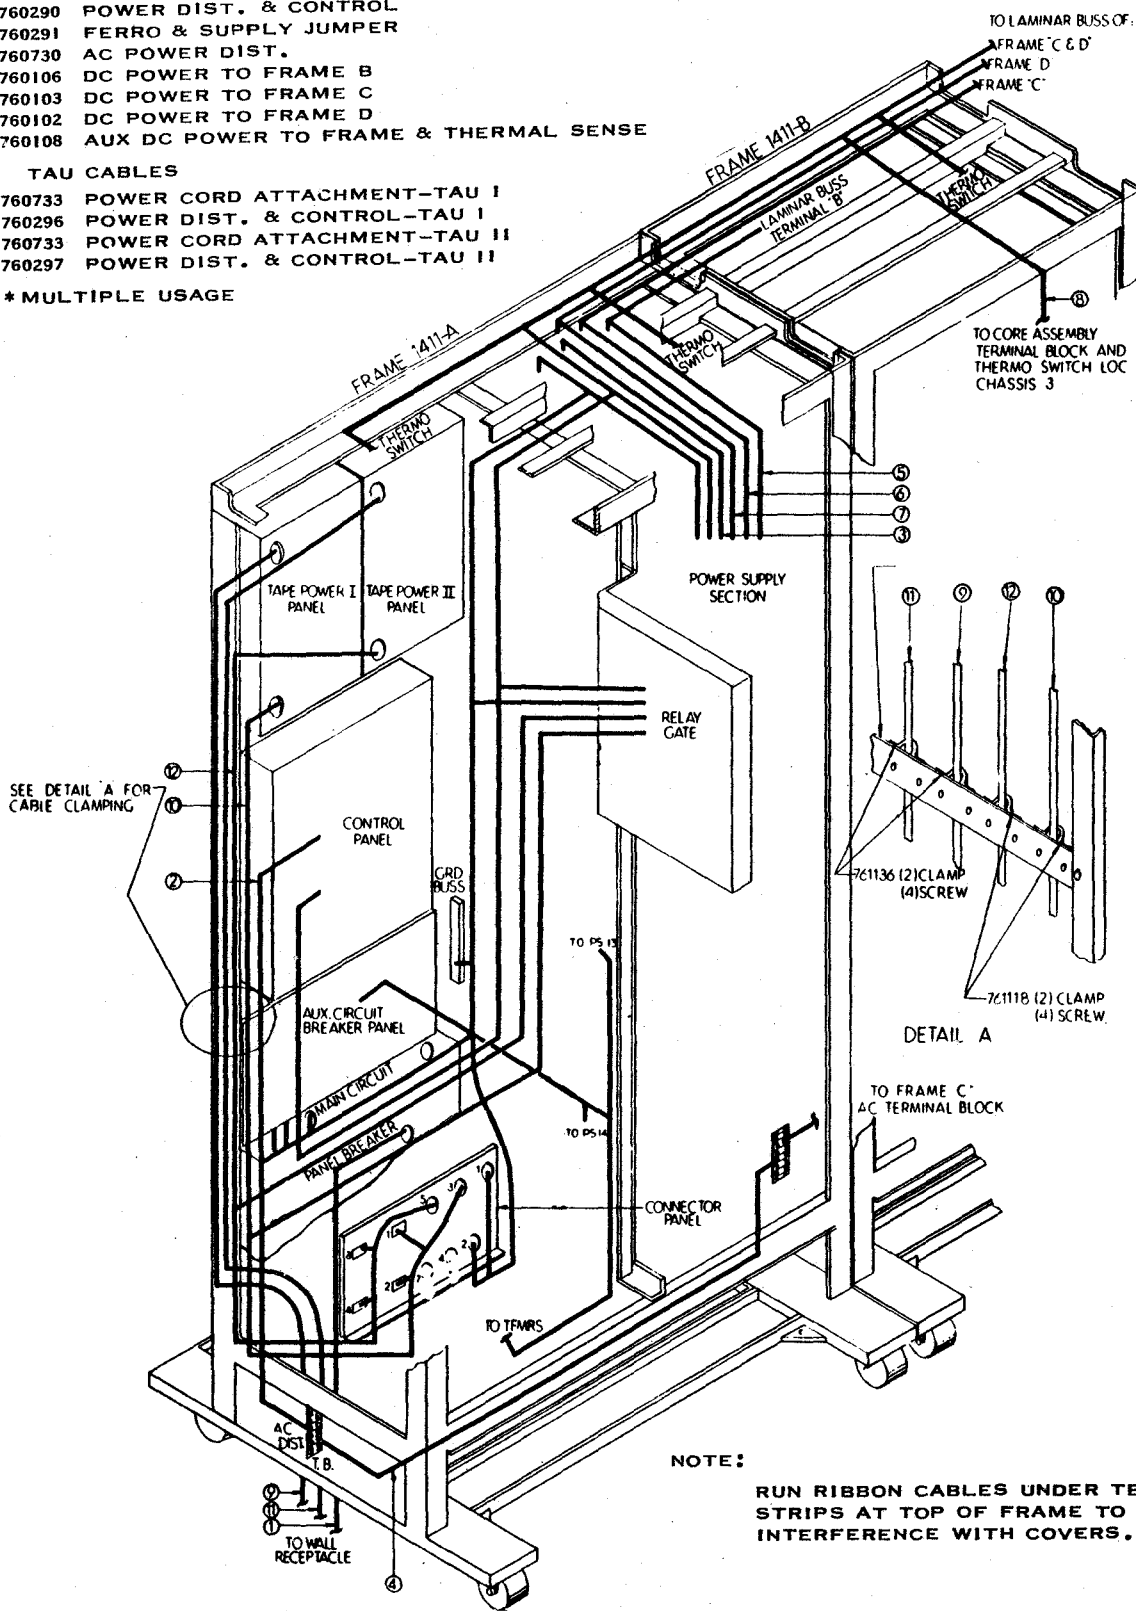

FIGURE 3-2 INTERNAL POWER AND CONTROL CABLE ROUTING
- D. The thermal sense cable, Part No. 760108 extends across all frames. (Cable identification is shown in Figure 3-2). The first tie-off in the thermal sense cable goes to the 2-position terminal block located on the resistor chassis above core storage in frame 11B. From the card side of the machine, the wire goes to the terminal on the left. The second tie-off from the thermal sense cable is a smaller cable that is attached to TB 11 located at the bottom rear of the core array. The first two wires in the tie-off go to terminal 1; the next four wires go to terminals 2, 3, 4, and 5. The next two wires go to terminal 7; the remaining three wires go to terminals 8, 9, and 10. Connect the thermal sense connectors to the thermal switch leads for chassis 11B3. The next tie-off in the thermal sense cable contains three wires. The short red wire goes to the frame 1411 laminar bar, terminal 5. The black wire goes to terminal 6, and the longer red wire goes to terminal 7.
In frames 1411C and 1411D, connect the red wires to laminar bar terminal 5, and connect the black wire to laminar bar terminal 6. Also, connect the wires to the thermal sense cables in each frame (detail A of Figure 3-1). Thermal switch cable, Key No. 8 in Figure 3-2, has a red No. 20 wire that breaks out of the cable at 1411C-LB-TB. Connect this wire to 1411C2A01A.